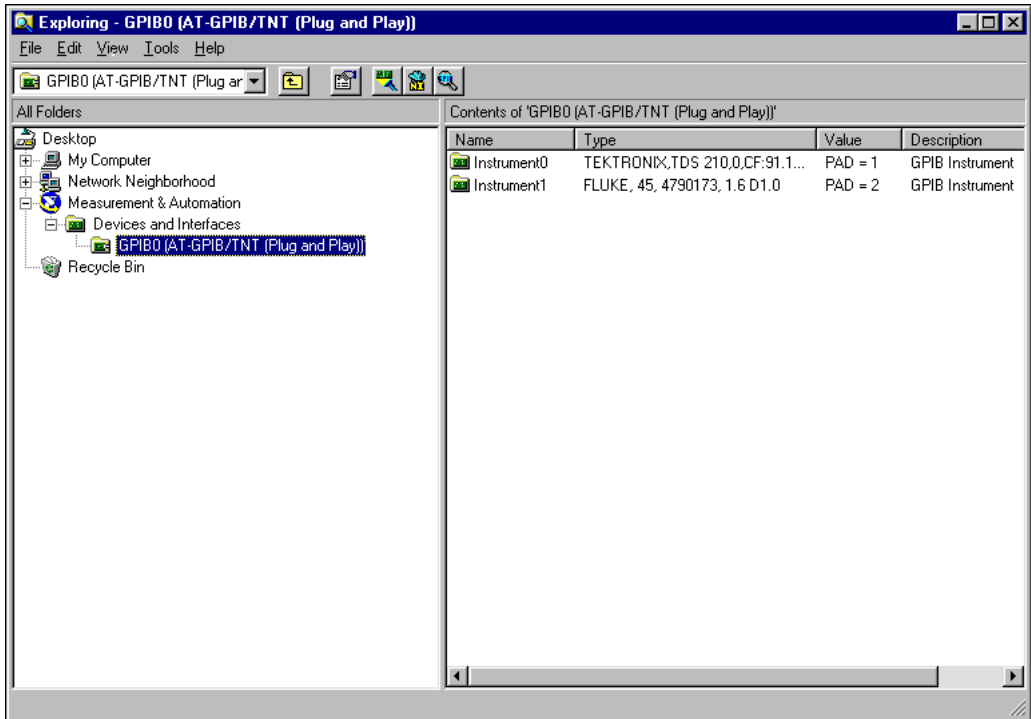

Figure 2-16. GPIB Instrument Information
3. View the instrument information in the right window frame of Measurement & Automation Explorer, as shown in Figure 2-16.